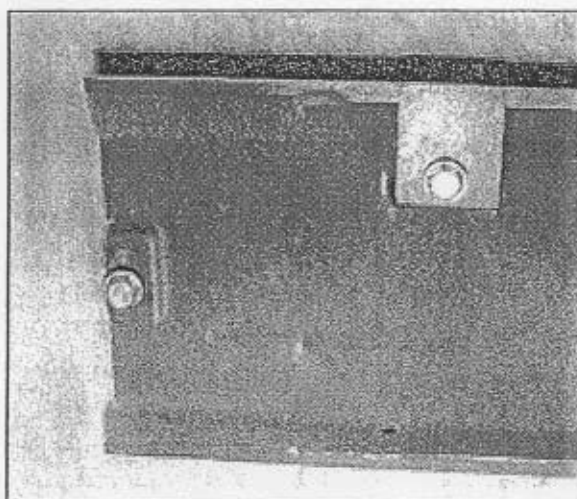
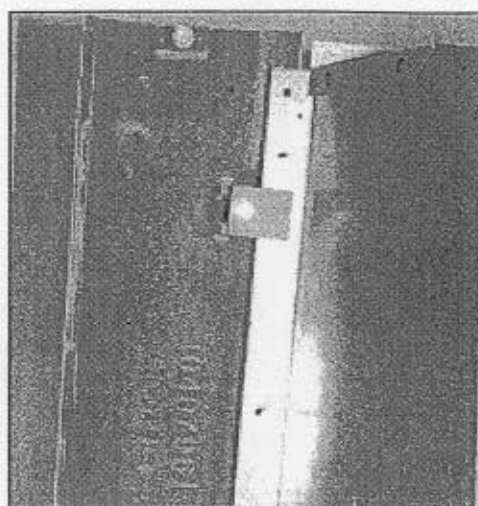

Figure 10c
Figure 10d
B. Lay the side panel on carpet or cardboard so it will not chip. Attach the side clip to the side panel and insert the bolt (provided) in the top hole. See Figure 10c. Place the side on the unit (See Figure 10d) and secure the bottom with bolt (provided) through bracket.